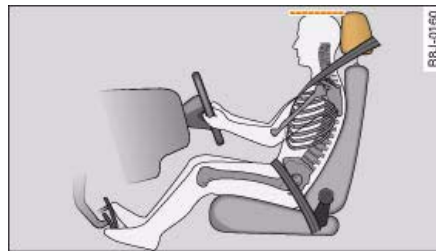

Fig. 174 Correct head restraint position for the driver
- Adjust the head restraint so that the top of the head restraint is level with the top of your head ⇒ fig. 174.